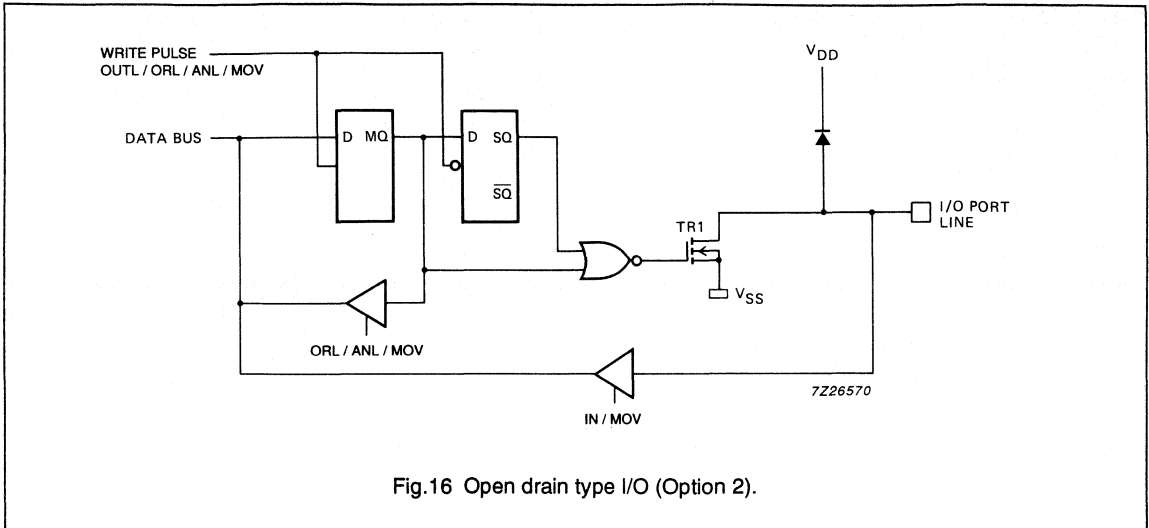

Fig.16 Open drain type I/O (Option 2).
- Option 2: Open drain (see Fig. 16).